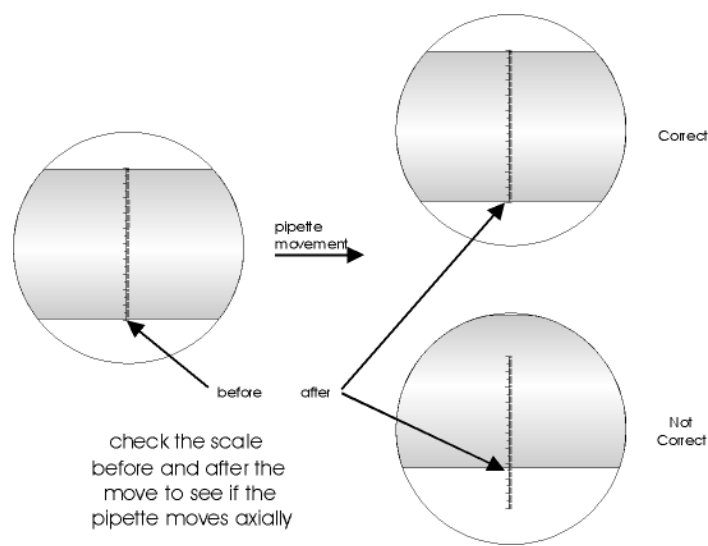

Figure 29. Field of view when aligning the pipette shaft
2. Bring the pipette SHAFT into the field of view. Because the SHAFT region has not been “pulled” its walls are parallel. Using a 10X objective, the walls should line up pretty well with the end marks of the reticule scale bar (Figure 29).